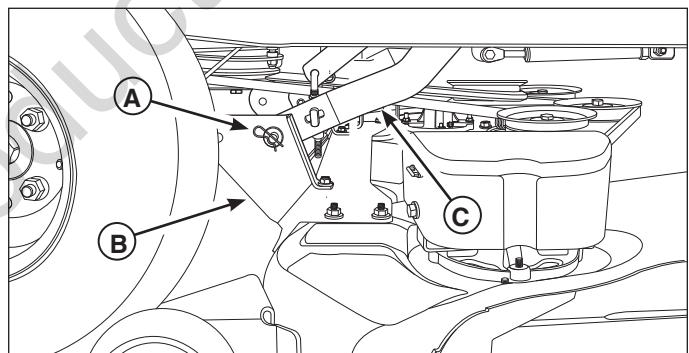

Figure 19. Rear Deck Lift Components
4. Remove the hairpin clips and washers (A, Figure 19) securing the rear mower deck brackets (B) to the rear lift arms (C), and pull the arms out from the holes in the brackets. Retain all removed hardware.
5. Insert the rear lift arms (C, Figure 19) into the front holes in the rear mower deck brackets (B), and secure each with a washer and hairpin clip (A).